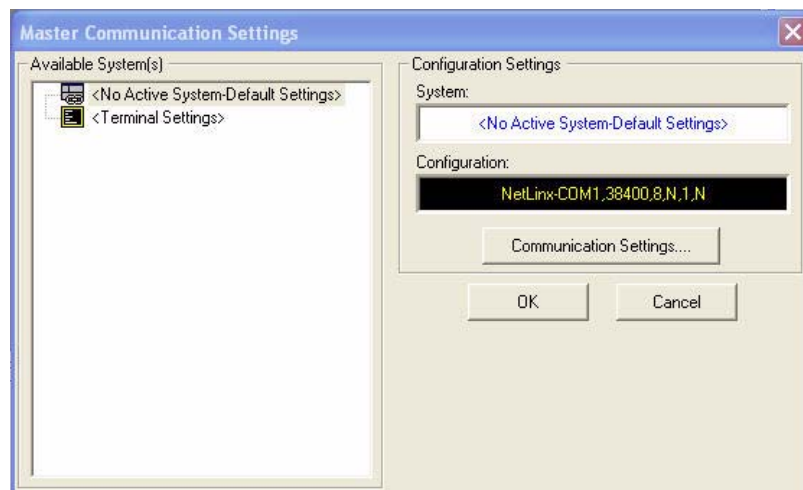

FIG. 38 Master Communications Settings dialog
2. In NetLinx Studio, select **Settings > Master Communication Settings** from the *Main* menu to open the *Master Communication Settings* dialog (FIG. 38).